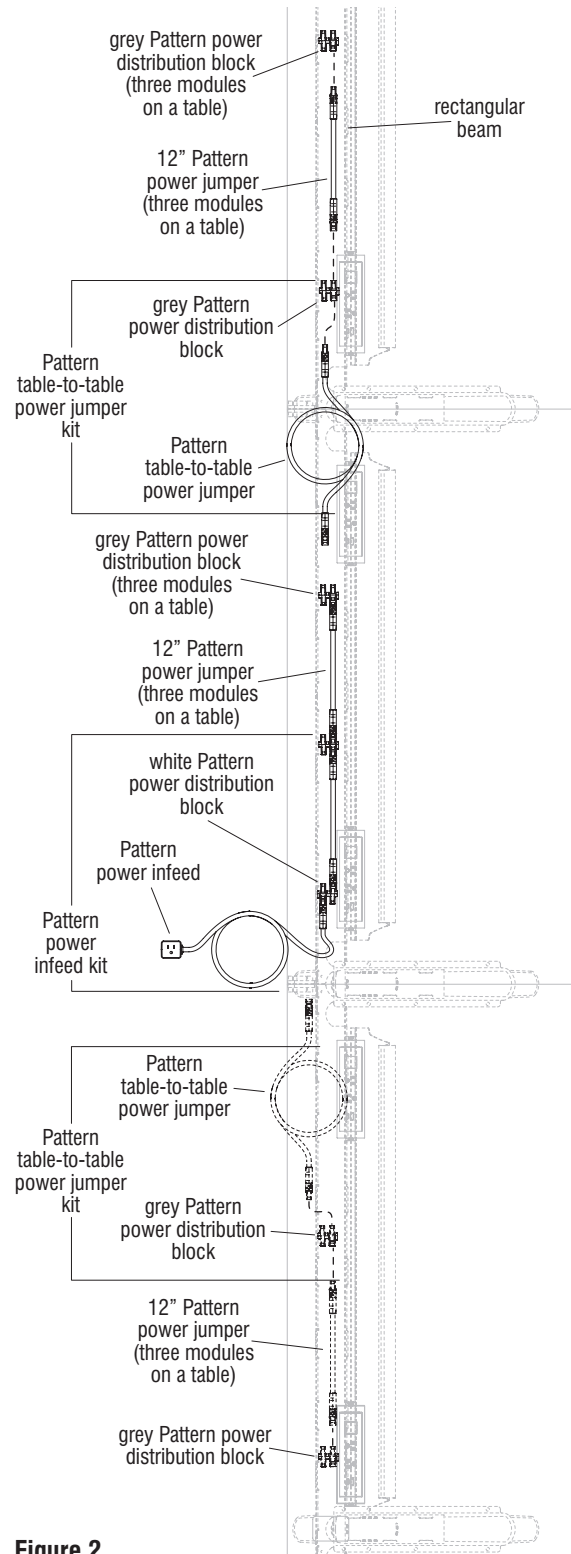

Figure 2
1. Take a Pattern table-to-table power jumper in hand and plug the jumper's male connector end into a grey Pattern power distribution block as shown in Detail B on page 35 and Figure 2 this page. Orient the table-to-table power jumper's female connector end out of the trough and toward the previous table, in the direction of the table with the Pattern table-to-table power jumper kit (Figure 2 & page 35, Detail B).
2. Step 1 above assembles the Pattern table-to-table power jumper kit (Figure 2). If the table being assembled will have three power modules, an additional 12" power jumper and grey power distribution block must be added after the Pattern table-to-table kit (Figure 2 & page 35, Detail B).
4. If the Pattern power infeed is located in-between two tables, connect the closest Pattern table-to-table power jumper, not connected to the run of tables, to the open available socket on the white Pattern power distribution block (Figure 2 & page 35, Detail B).